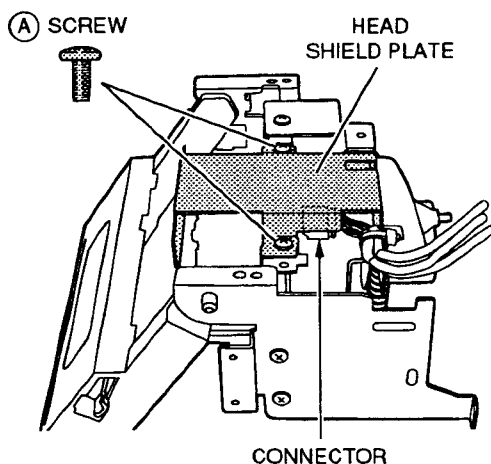

Fig. 3-24
- 1) Remove the two (A) screws and remove the HEAD SHIELD PLATE as shown in Fig. 3-24.